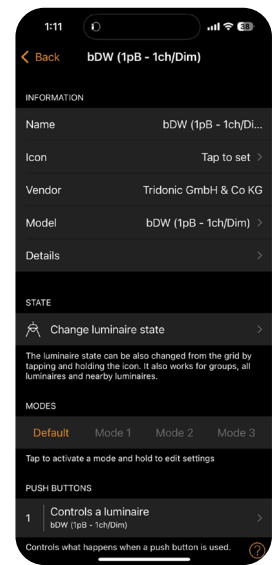

FIG. 13
9. After selecting the G2's icon, the app displays detailed information about the device (Fig. 13).